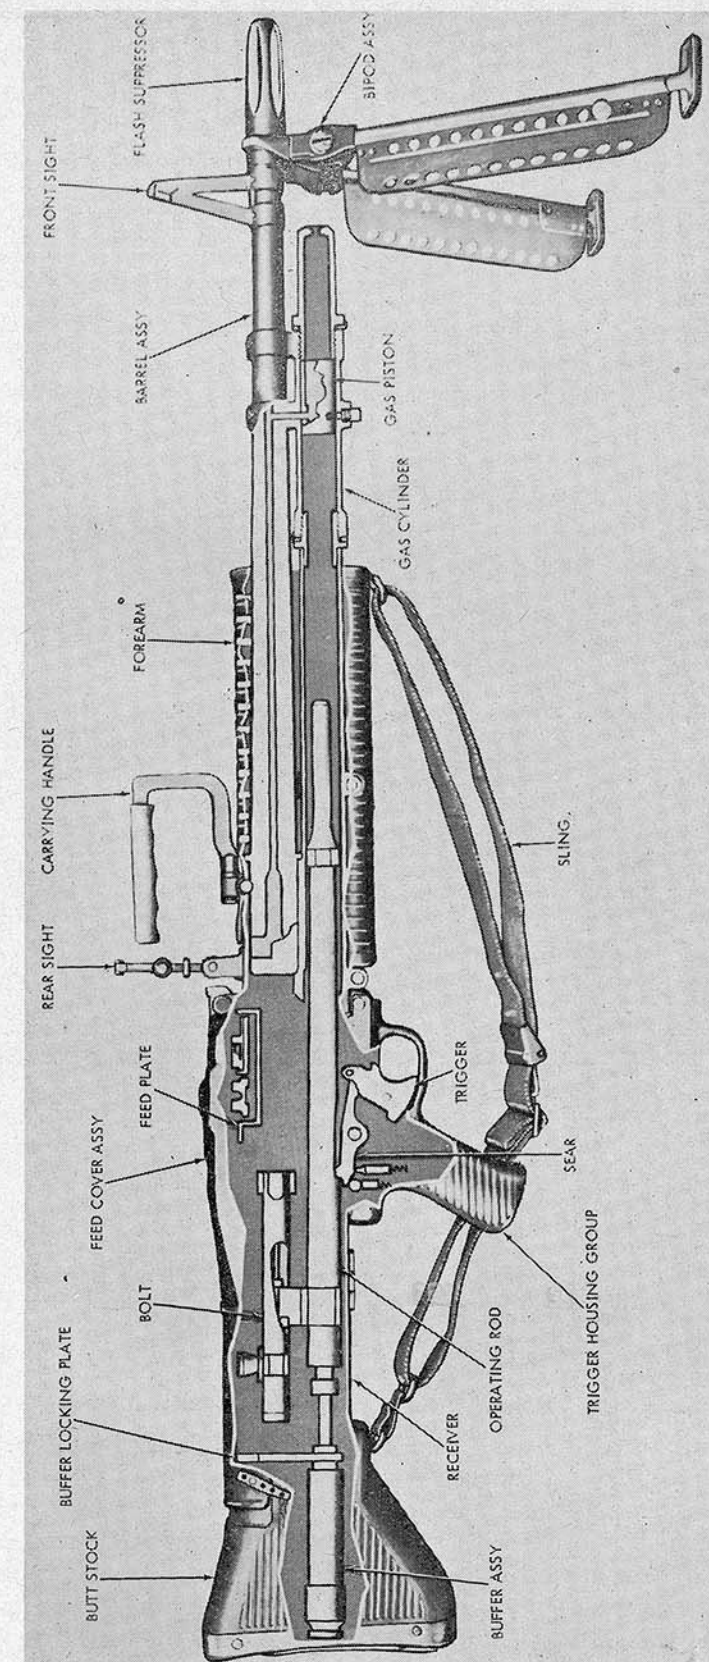

Figure 6. Cutaway view of 7.62-mm machine gun M60.
15. Barrel Assembly (fig. 6)
(fig. 6)